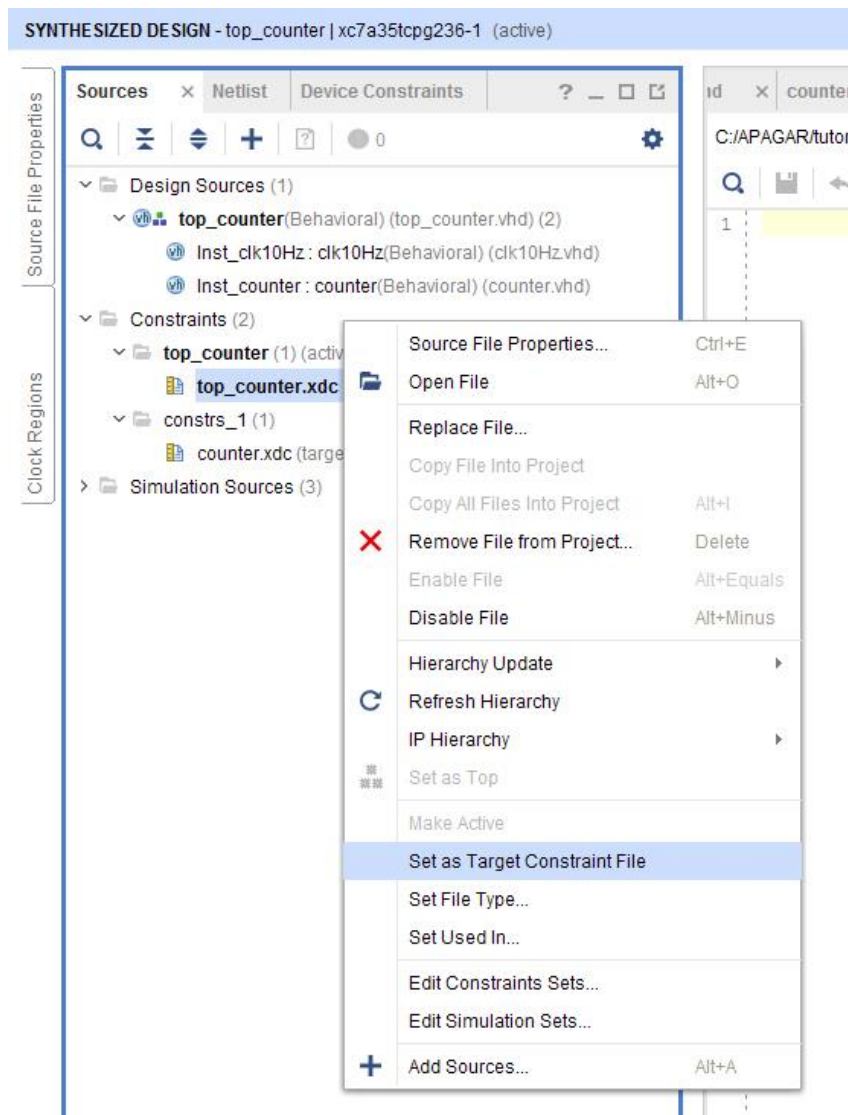

Figure 47
16. Then, in the **Sources** window, select **top_counter.xdc** and make it the target constraint file by right-clicking and choosing **Set as Target Constraint File** (Figure 47)